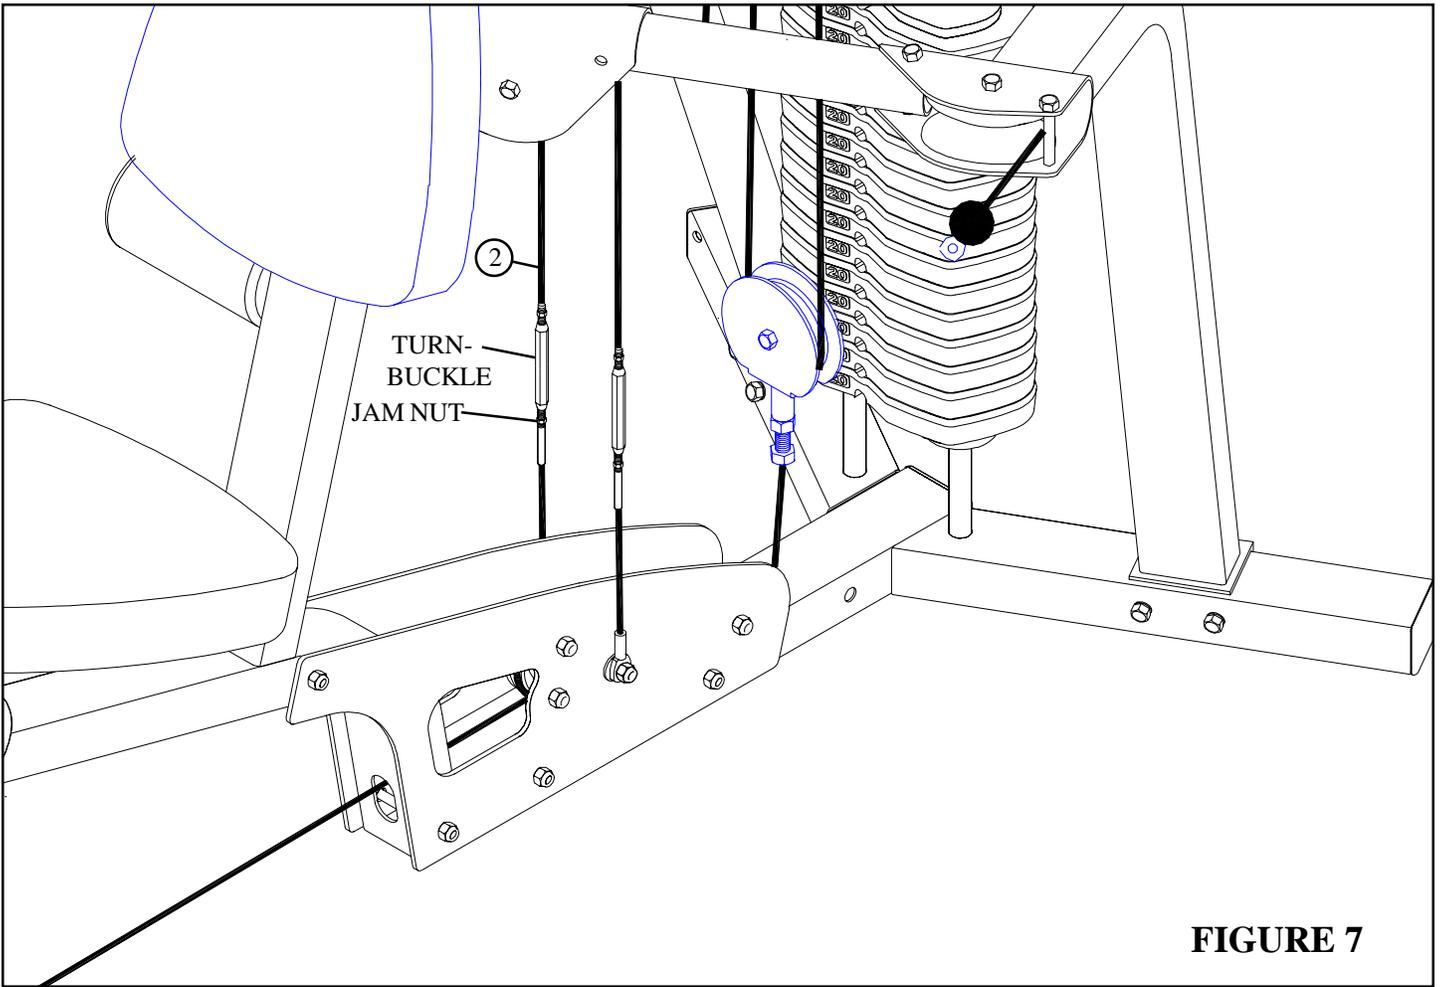

FIGURE 7
- Adjust the turnbuckle on each CABLE (2) to add tension to the CABLES (2). Secure turnbuckle with the JAM NUTS as shown in FIGURE 7.